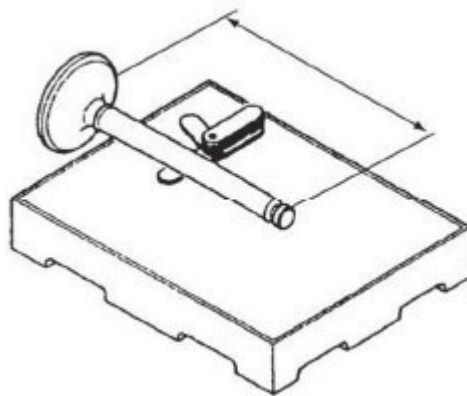

Figure 61. Valve Inspection Block
4. Place the valve stem on a flat inspection block or layout bed. Roll the valve until a gap can be observed between a portion of the valve stem and the surface of the block or bed. Use a feeler gauge to measure the gap (Figure 61). See *Intake / Exhaust Valve and Guide chart* for the service limit.